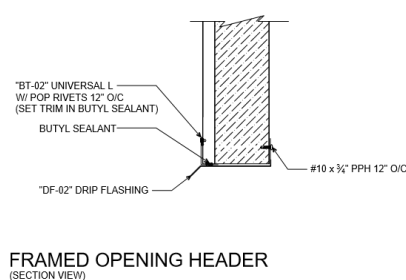

Figure 2A
2. **OPENING:** Fasten steel drip flashing and trim around the perimeter for the opening using pop rivets every 12 in. oc. See Figures 2A, 2B, and 2C for details.